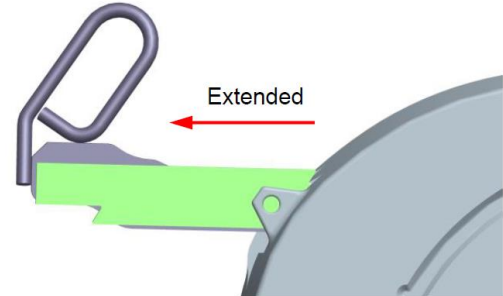

FIGURE 1
- A. The release handle is extended (see figure 1).